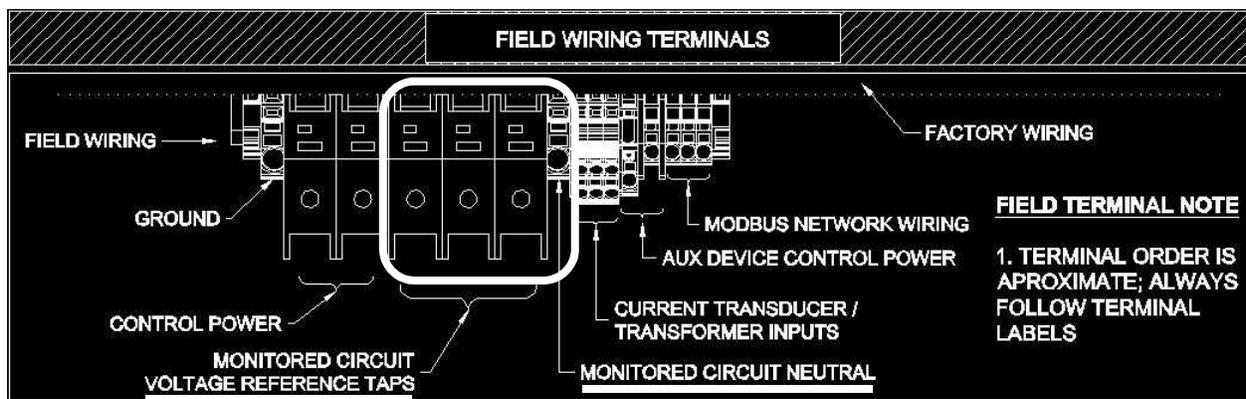

Figure 2 – Voltage reference input area
- Figure 2 – Voltage reference input area 6
For the DECK All-In-One enclosure provided with two DSP 30-24/277A power supplies, fused terminals under Monitored Voltage labeled VA, VB, VC, and N supply meter terminals A, B, C, and N, respectively (Figure 2 – Voltage reference input area).